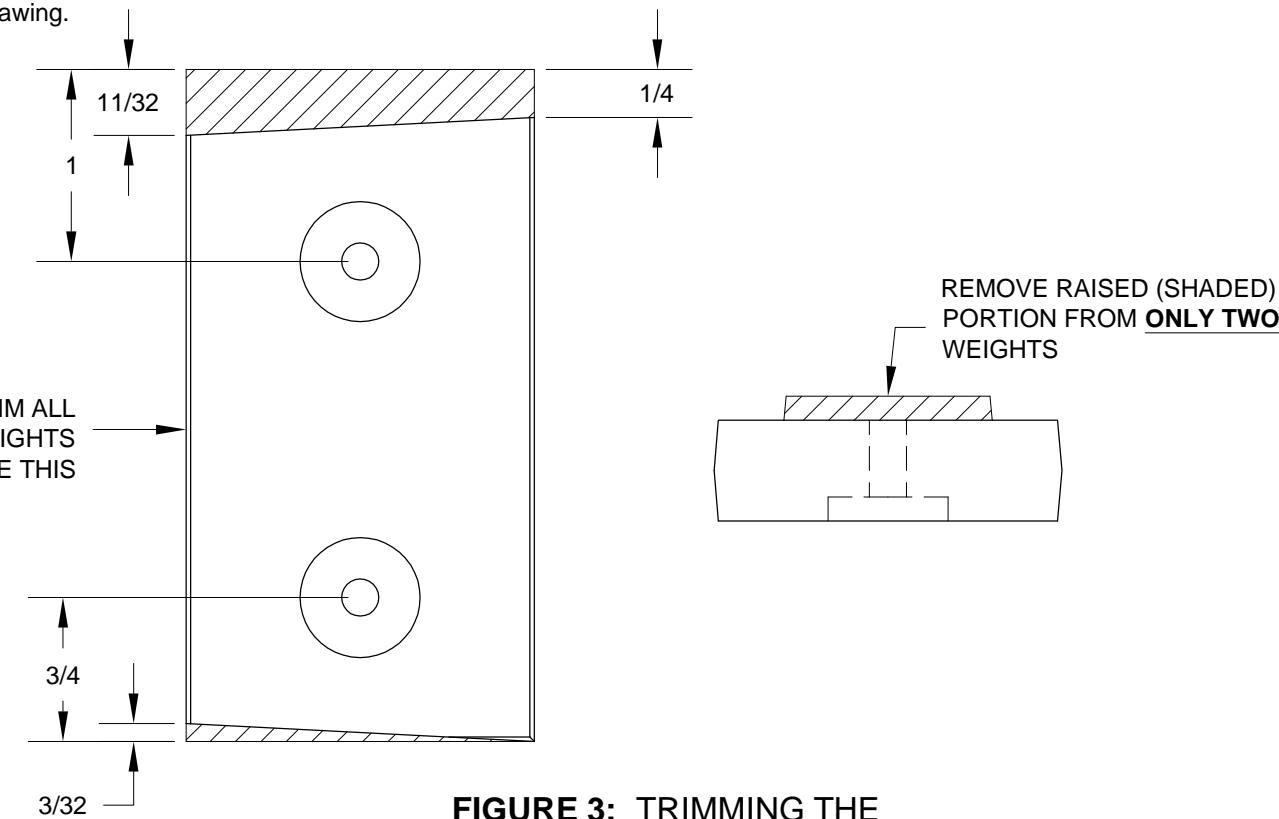

FIGURE 3: TRIMMING THE E-614 COUNTER WEIGHTS
Step 8: Remove the material indicated by the shaded areas in the left drawing of Figure 3 from all four **E-614** Counterweights. Notice that the two holes are closer to the bottom edge in the drawing, so be sure to trim the weight accordingly.